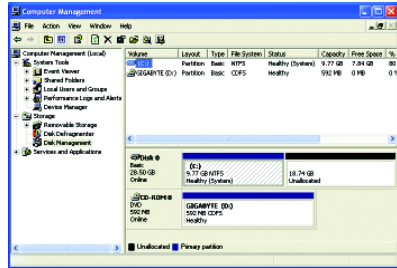

Figure 16
2. After the backup file is removed, no backup image file will be present in **Disk Management** and hard drive space will be freed up (Figure 16).